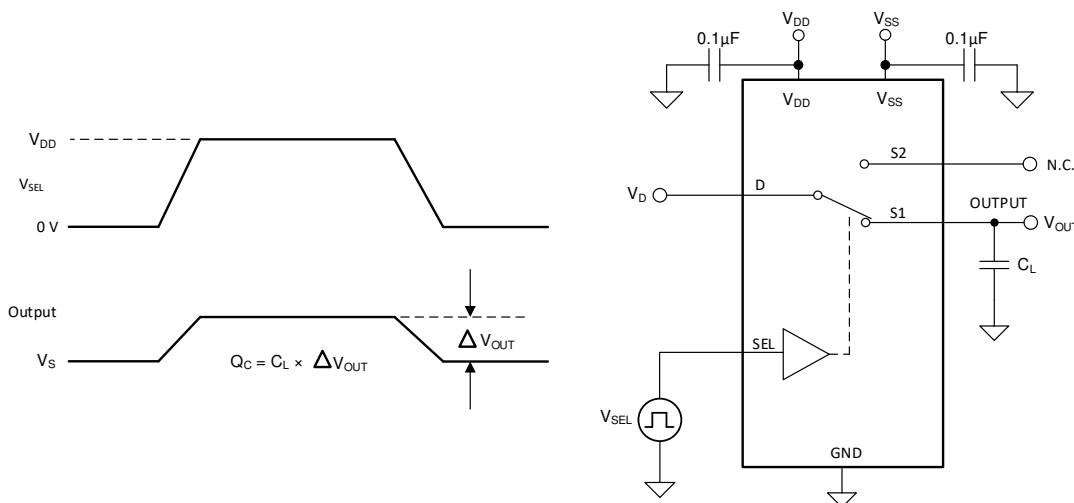

Figure 12. Charge-Injection Measurement Setup
The TMUX1237 has a transmission-gate topology. Any mismatch in capacitance between the NMOS and PMOS transistors results in a charge injected into the source or drain of the device during the falling or rising edge of the gate signal. The amount of charge injected into the source or drain of the device is known as charge injection, and is denoted by the symbol Q_C . Figure 12 shows the setup used to measure charge injection from Drain (D) to Source (Sx).